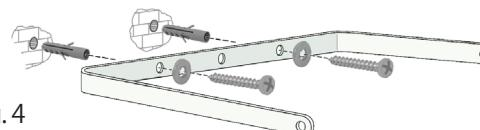

fig. 4
2. Hold bracket against the wall and mark drill points, drill the holes, insert the dowel. Use suitable material for wooden walls or lightweight walls. Fasten the bracket with screws and washers (fig. 4).